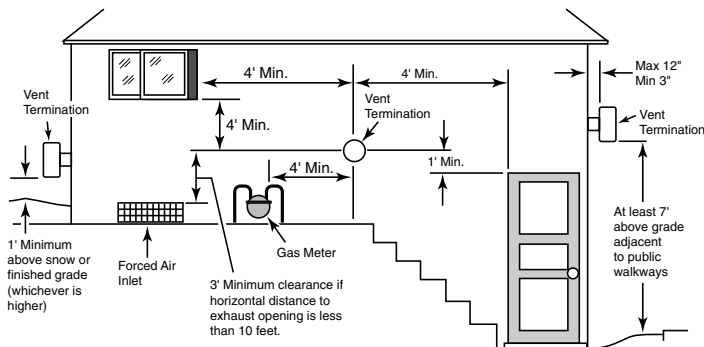

FIGURE 13: U.S. minimum Exhaust Vent clearances. Local codes may differ - consult local code officials
HORIZONTAL OR VERTICAL VENTING - POSITIVE PRESSURE (See Figure 13)
7. Vent Termination – Horizontal (See Table 7). Use a listed wall thimble and vent terminal from Table 7. The terminal must be located (U.S.-See Figure 13):